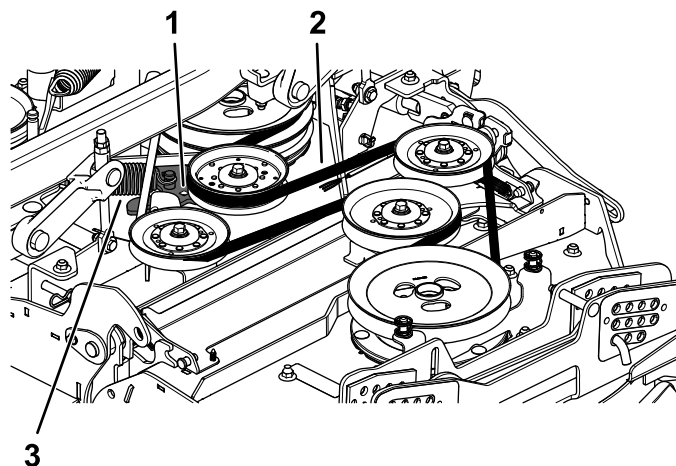

Figure 61
7. Using a ratchet in the square hole in the idler arm, rotate the idler arm rearward to remove tension on the idler spring (Figure 61).
8. Remove the belt from the mower deck pulleys (Figure 61).